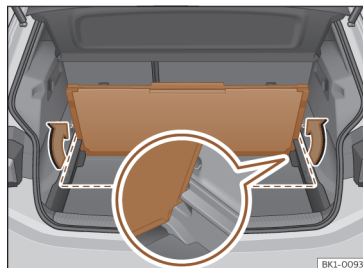

Fig. 165 In the luggage compartment: attach the second luggage compartment floor.
- Once folded, lift it up and insert it into the side brackets, with the open side facing downwards >>> **Fig. 165** (enlarged image).